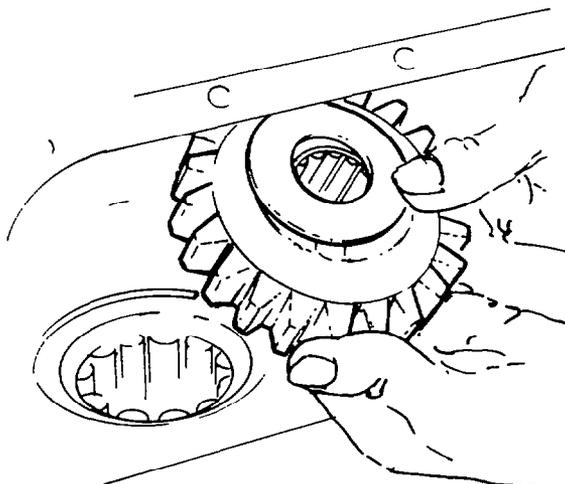

Fig. 187 — Removing Idler Gear, Thrust Washers and Bearing
- c. Remove the idler gears, bearings, thrust washers, and reverse gear from case (see fig. 187).